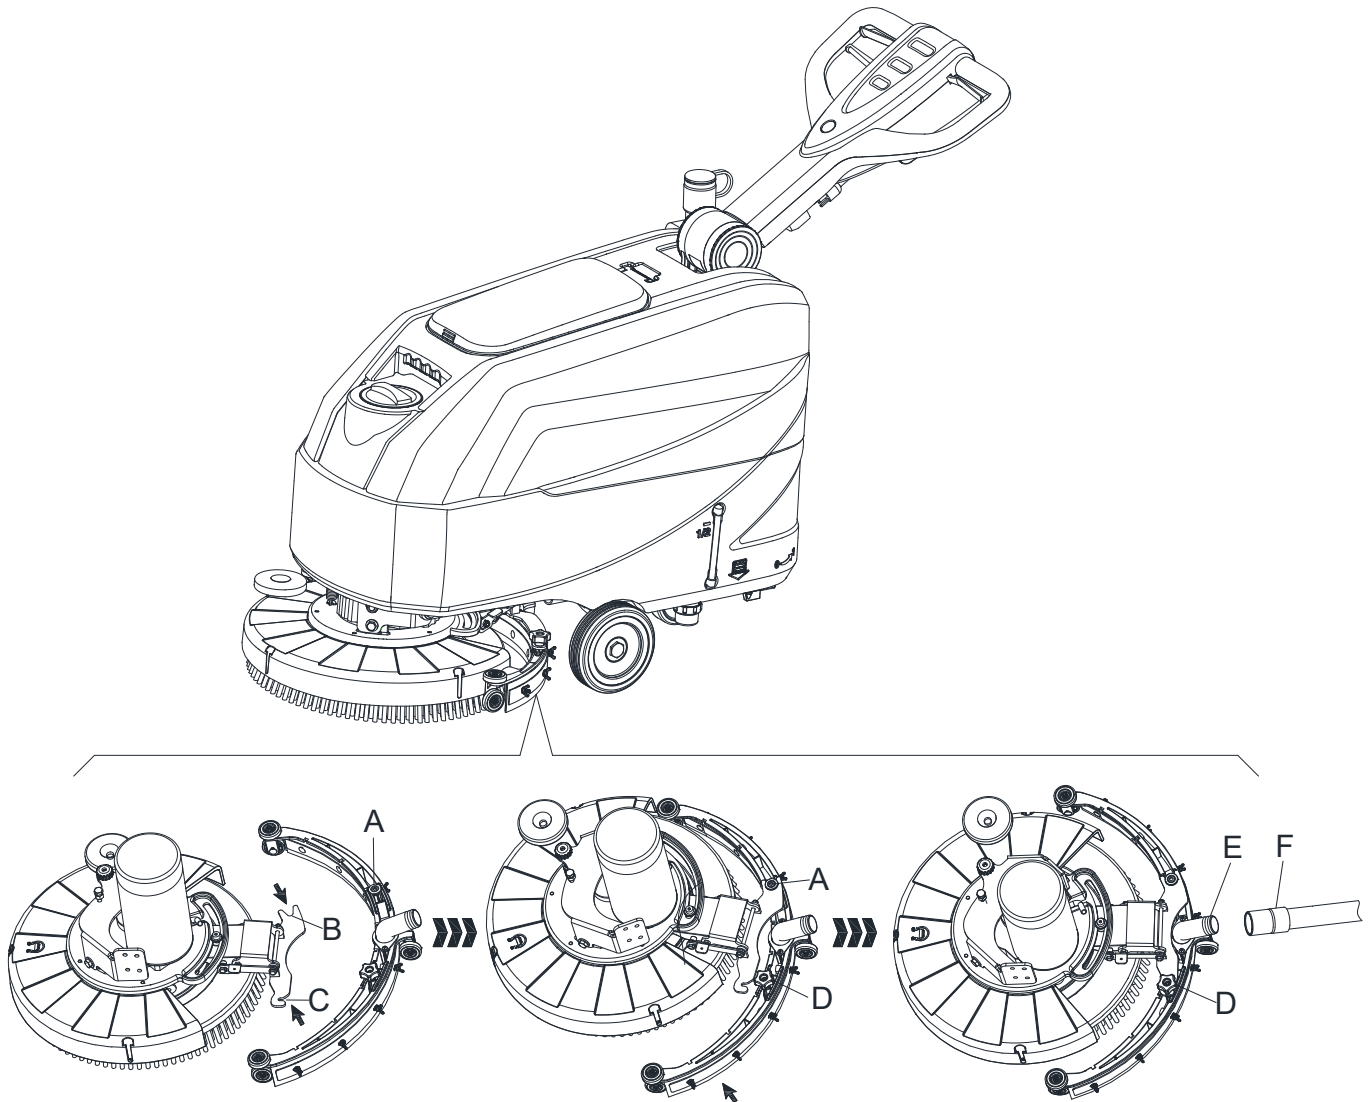

Figure 4
5. Fix stud A to the openg B, then fix another screw C to the open D, fasten squeegee knob and connect recovery water drain hose F to the connector E (Figure 4).